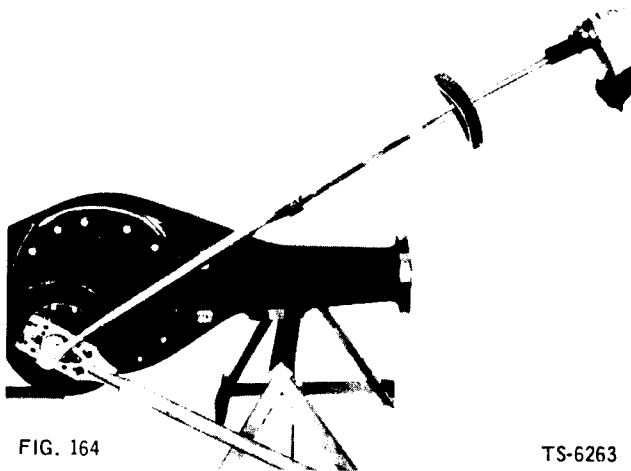

FIG. 164
9. Position assembled parking brake drum and companion flange on pinion shaft. Secure with flat washer and companion flange nut. Torque nut to 600 ft. lbs. (Fig. 164). Install cotter pin to retain nut.